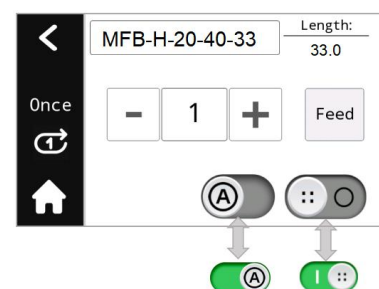

Figure 3
1) Tap  on the home page to enter the mode. (Figure 3)